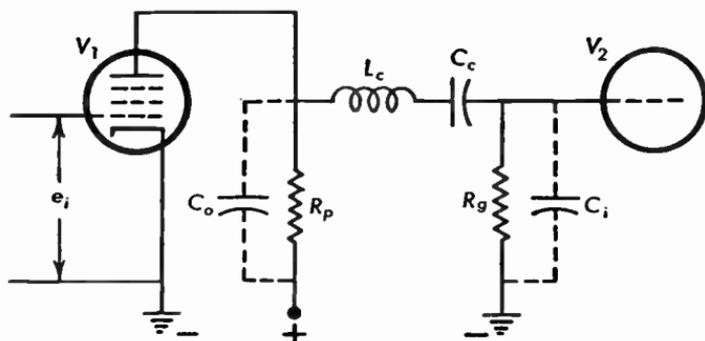

Fig. 11.37a Video amplifier with series-peaking coil for high-frequency compensation.
**11.37** In the video amplifier of Figure 11.37a,  $R_p = 2000$  ohms,  $r_p = 100,000$  ohms,  $L_c = 100$  microhenries,  $C_c = 0.25$  microfarad,  $R_g = 2$  megohms,  $C_i = 12.5$  micromicrofarads,  $C_o = 7.5$  micromicrofarads, the transconductance of  $V_1$ ,  $g_m = 7700$  micromhos. Calculate the gain at 4 megacycles (a) with the series peaking coil  $L_c$  short-circuited, (b) with the series peaking coil  $L_c$  in the circuit.